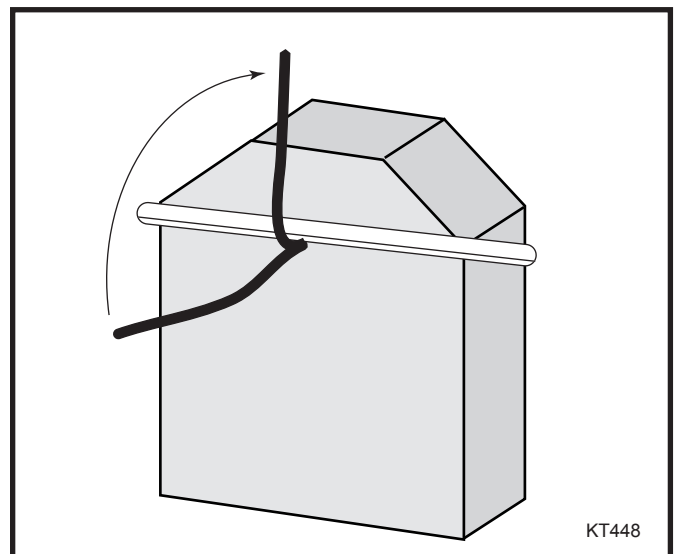

Fig. 3 Hold the bar in place as you bend the new lever into position.
4. Bend the thermostat lever into position. For the Intrepid, you will need to bend the thermostat into an upward position. Do this after the thermostat cover has been replaced, by holding a wooden or metal dowel in the curve of the lever and bending it upward 90°. (Fig. 3)